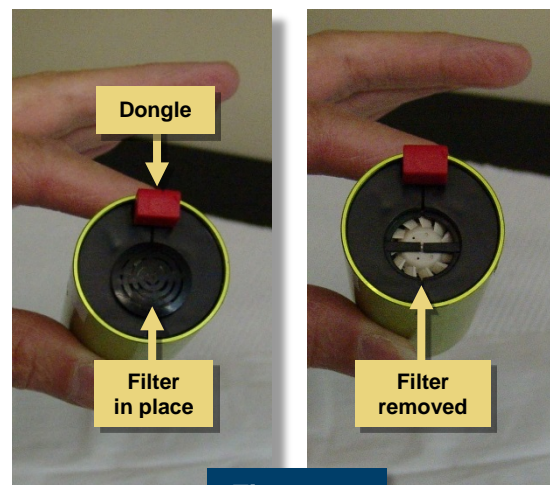

Figure 13
1. Insert the red dongle (provided with the sensor) into the CairClip, as shown in Figure 13. The dongle prevents the small fan inside the device from turning.